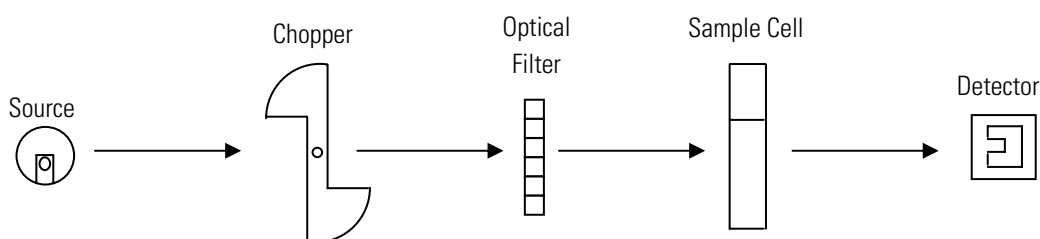

Figure 1–1. Example of Simple Single-Beam NDIR
The basic design of a simple single-beam NDIR that could be used to measure a single component is shown schematically in Figure 1–1. As illustrated in this figure, infrared light, or radiation, with a broad range of wavelengths is generated by a glowing metal filament that is heated to a temperature of several hundred degrees Celsius. The radiation passes through a rotating blade, or “chopper,” that interrupts and synchronizes the beam so that the intensity of the radiation reaching the detector is modulated. If the radiation beam were not chopped, the detector would become saturated and insensitive.
Since most compounds absorb IR radiation only at specific wavelengths determined by molecular structure, it is possible to measure the concentration of one specific component in a mixture. For example, the absorbance spectra of carbon monoxide and carbon dioxide are shown in Figure 1–2. Based on the absorbance spectra shown in these figures, the concentration of carbon monoxide (CO) can be determined by measuring the absorbance of infrared energy at a wavelength of approximately 4.6 micrometers, and the concentration of carbon dioxide (CO₂) can be determined by measuring infrared absorbance at a wavelength of approximately 4.2 micrometers.